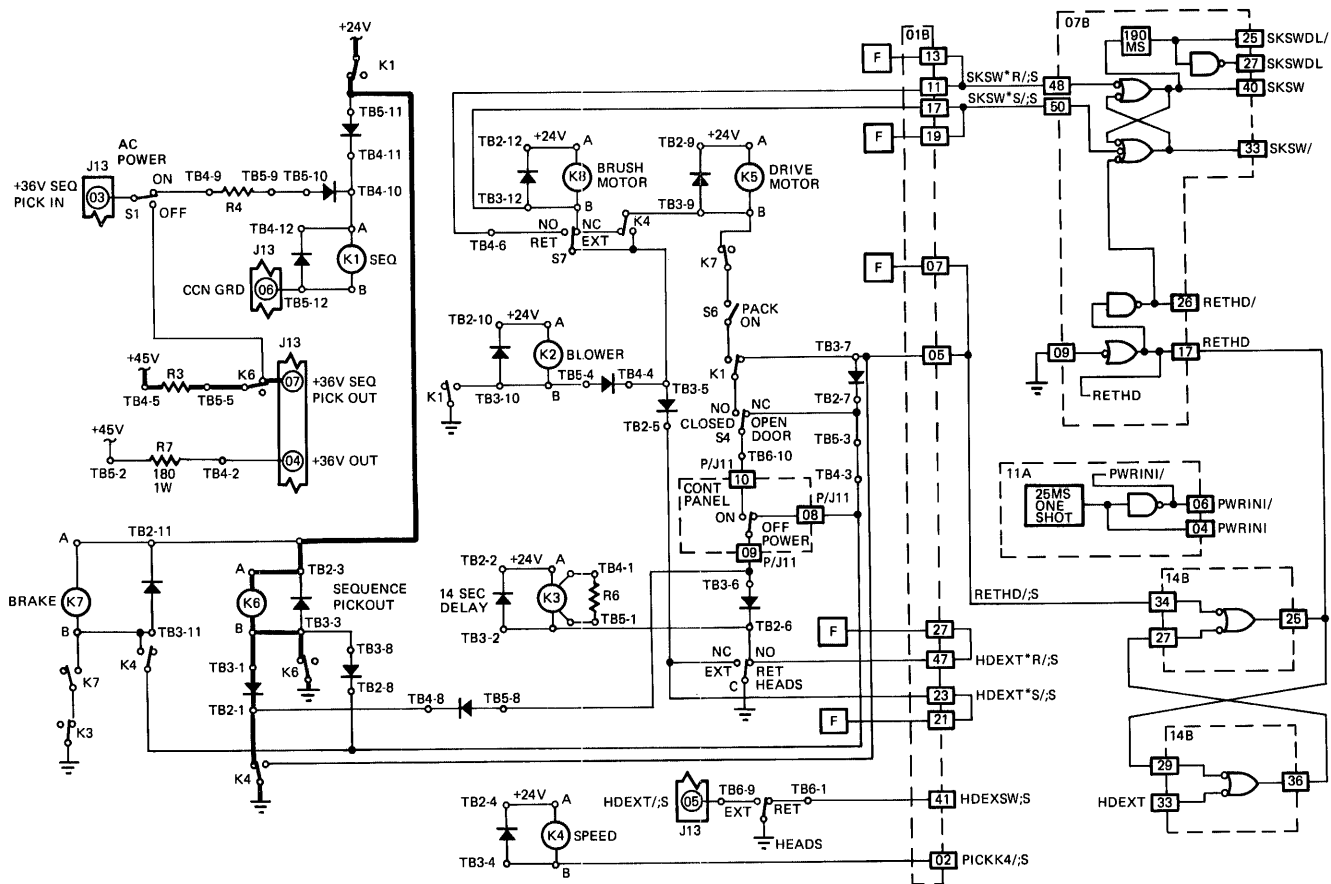

Figure 3-9. Energizing Sequence Pick Out Relay K6
- Figure 3-9. Completing Brush Cycle and Initializing First Seek